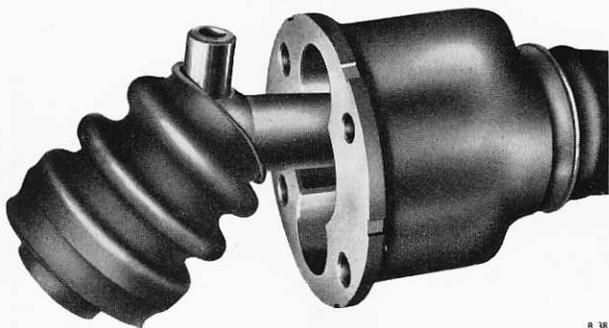

Fig. F7 Stretching the sealing boot over the trunnion pin
- (iv) Stretch the grease-covered boot over the trunnion pin and ball head as shown in Figure F7.